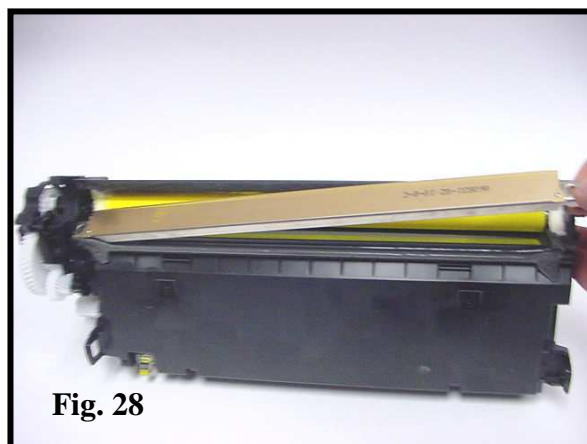

Fig. 28
28. Remove the doctor blade (Fig 28). When replacing the blade you may be able to re-use the existing caulking to seal along the back edge of the blade. If the original is damaged, replace with caulking.